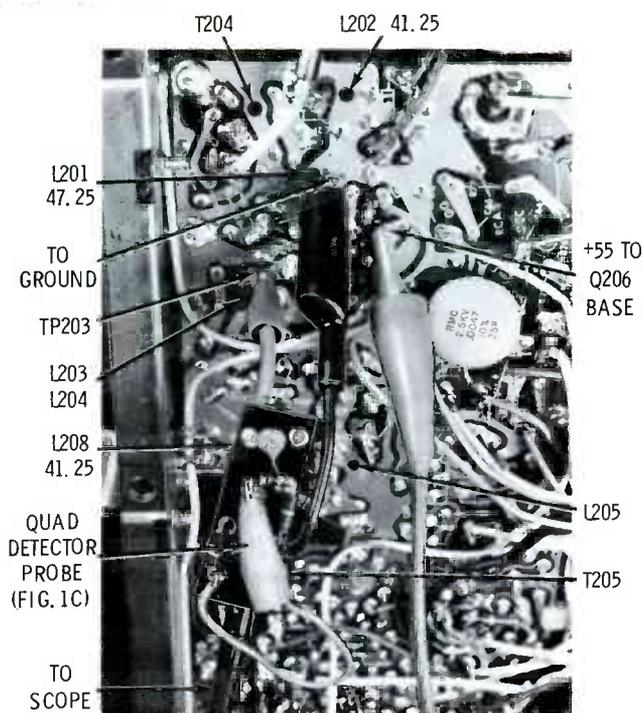

Fig. 6 Attach the "quad" detector probe to TP203 and ground, and connect the +55 volts from the external AGC bias control to the base of Q206.
4. Fig. 6 shows the quad detector probe attached to TP203 and ground, and +55 volts of fixed AGC bias connected to the base of Q206. The equipment is now ready for link alignment.